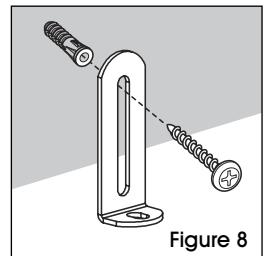

Figure 8
- Insert 1 1/4" screws through L-brackets into wall anchors. Do not overtighten. (See Figure 8)